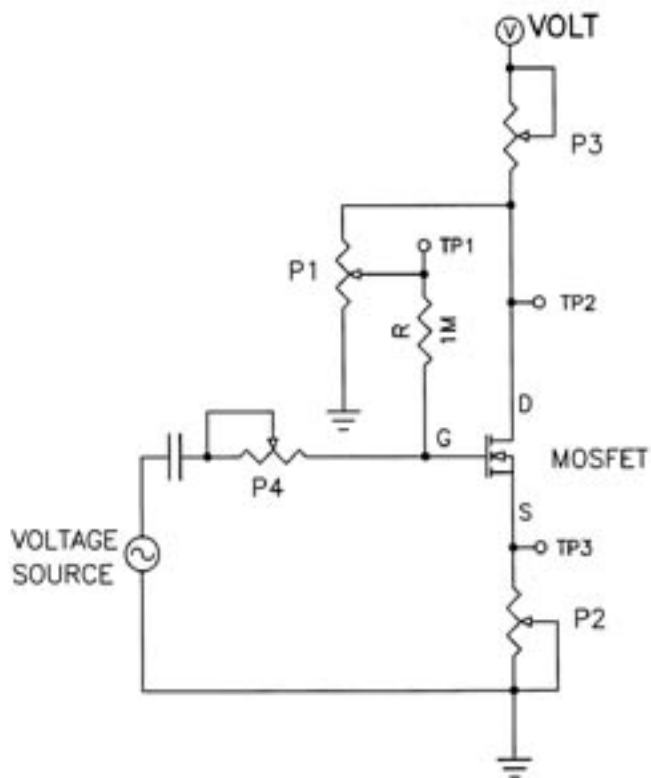

FIG 4 TEST EVERYTHING CIRCUIT
Figure 4 shows a simplified circuit for measuring some of the practical characteristics of Mosfets with an eye toward their use in audio circuits, and it will allow measurement of the characteristics just identified. The ranges of values of the adjustable resistors in this circuit is from 0 ohms in infinity, and of course this would cover just about any contingency. The DC and AC voltages to be measured would be those at the three pins of the Mosfet and the supply voltage, and from these everything can be calculated. The capacitor must be a low leakage film type.
Suppose we simply want to measure the DC value of V_{gs} at a given current. Referencing Figure 4, we set P1 full clockwise. We adjust P3 and the voltage at (V) for the current we want and measure the DC voltage between the Drain and Ground, noting and trimming the voltage
Using the circuit of Figure 4, you can measure transconductance under arbitrary conditions. In Common Drain mode, if you short P3 and measure across an arbitrary DC and AC value for P2 with an given input signal and supply voltage, you can compare the AC variation of Gate-Source voltage versus the output voltage. The Vgs variation divided by the current through P2 gives the transconductance, so you would be dividing the AC current occurring across P2 (which is the value of the voltage across P2 divided by the AC voltage) and you would be dividing this by the AC voltage which appears across the Gate and test point TP3. TP1 is only used for DC Gate measurements, being connected through 1 Megohm.
Figure 5 shows a practical version of the circuit of Figure 4 using switches and power resistors where real current is likely to flow instead of potentiometers. It assumes the use of a variable regulated supply designed to provide the voltages and currents you might find interesting. If you have a dual voltage supply it makes the use of S1 convenient in reversing the supply polarity, otherwise